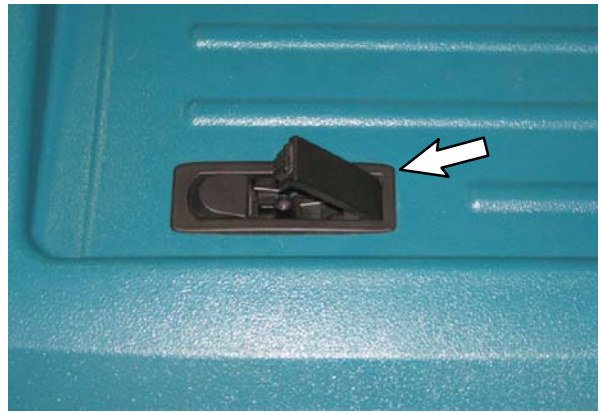

FIG. 53
68. Install the latch removed from the old top cover onto the top cover (81). (Fig. 53)